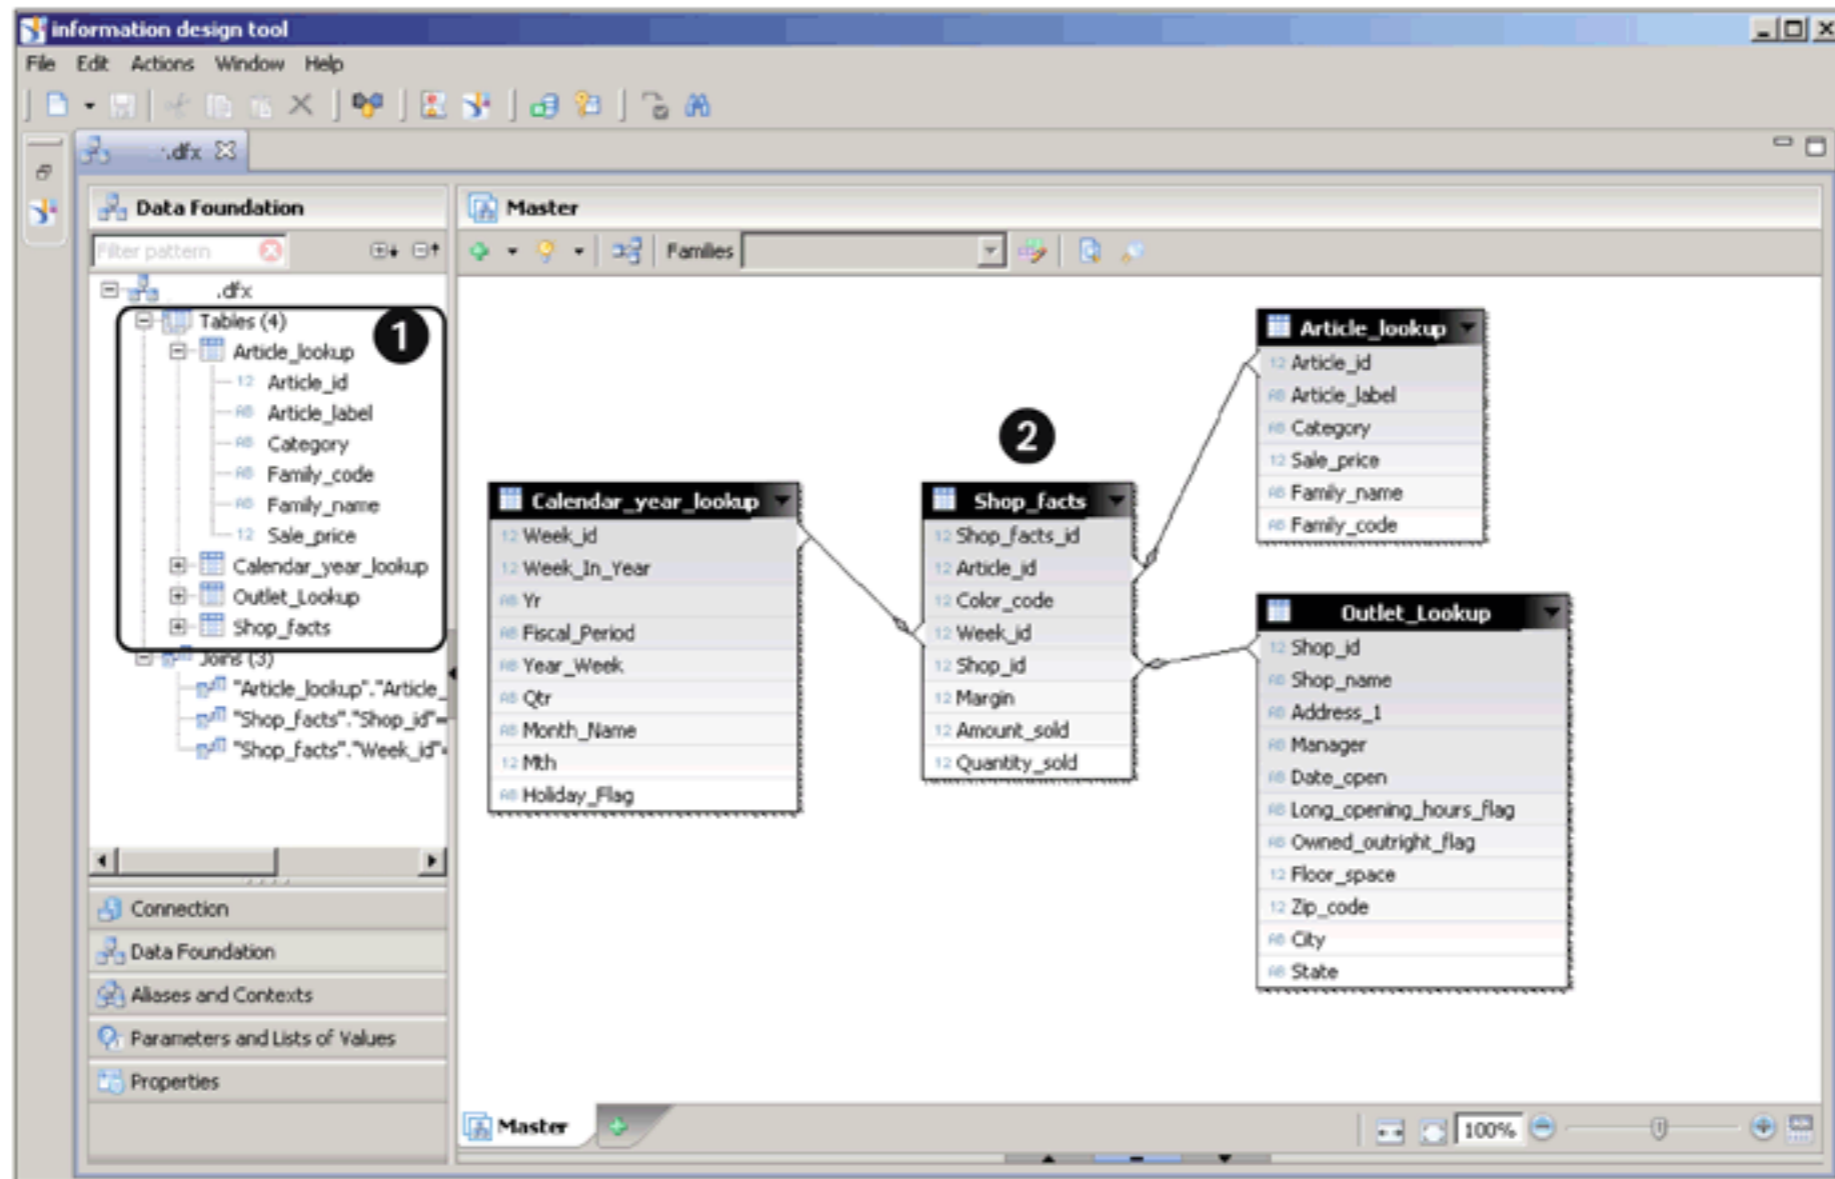

Figure 13.5 Define Data Foundation
Within the data foundation, you can select the fields from one or multiple tables that are desired in the semantic layer for reporting (❶ of Figure 13.5). You also create the joins that define the relationships between these selected tables (❷).